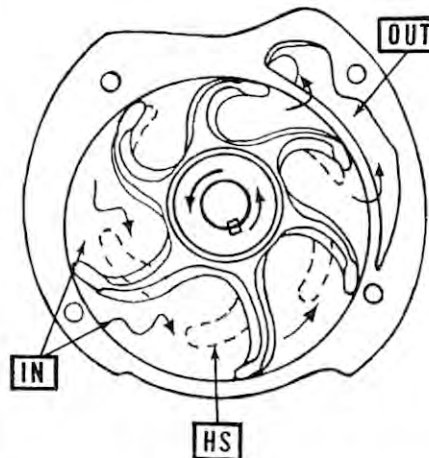

**Fig. Mc123** — Schematic view of tachometer point assembly showing method of adjustment. Refer to text.
**TACHOMETER.** Some electric models are equipped with an electronic tachometer which is controlled by contact points mounted in the ignition distributor and activated by the distributor cam (See 22—Fig. Mc119). Three adjustments are necessary on the contact point assembly. To make the adjustments, depress the cam follower (1—Fig. Mc123) until the spring contact (3) touches